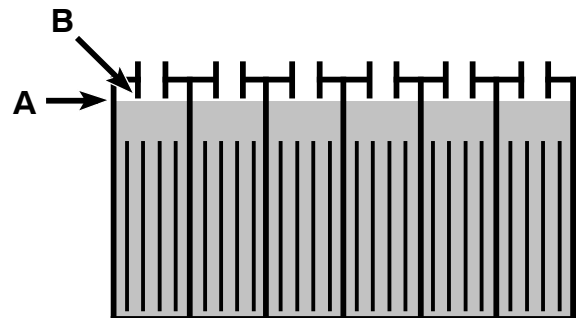

FIG. 25
8. After charging, check the electrolyte level (A) again. The level should be approximately 1 cm from the bottom of the fill-port (B) (Figure 25). Add distilled water if needed. DO NOT OVERFILL.